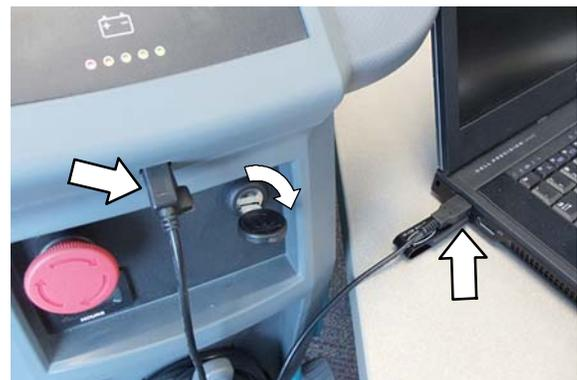

Fig. 3
4. Connect the USB cable to computer and to the USB port on machine as shown. Turn the key switch to the on position (Figure 3).